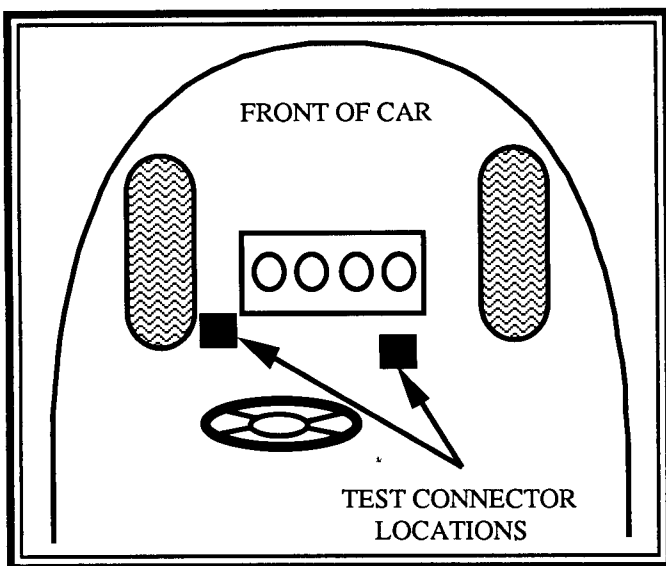

Fig. 7. Chrysler cars can have the test connector on the fenderwells or near the firewall.
3. Connect the Chrysler adapter to the car's diagnostic connector. The diagnostic connector is in the engine compartment, **Fig 7**.